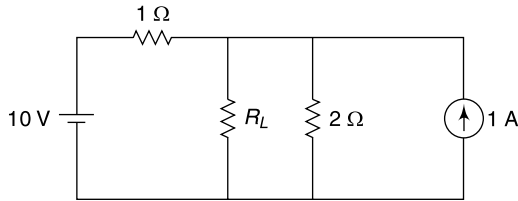

Fig. 4.114 Circuit of Ex. 4.83
4.83 Calculate the value of R_L which will absorb maximum power from the circuit shown in Fig. 4.114. Also calculate the value of this maximum power.